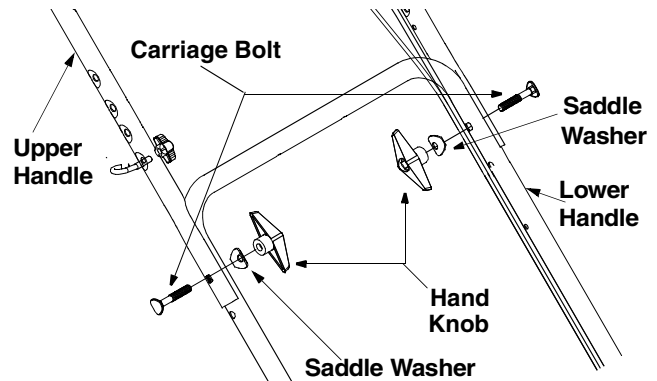

Figure 2
- Pull up and back on the upper handle to raise the handle into the operating position. Make certain the lower handle is seated securely into the handle mounting brackets. Tighten the hand knobs on each side of the handle (carriage bolts and saddle washers must be seated properly into the handle as shown). See Figure 2.